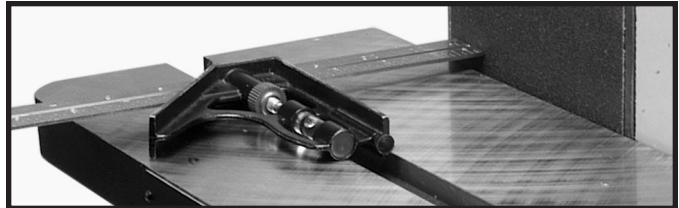

Fig. 24
1. Check to see if the miter gage slot is parallel with the sanding belt by placing a square in the miter gage slot with one end of the square against the platen, as shown in Fig. 24.
The platen (A) Fig. 24, is set at the factory  $1/32$  of an inch higher than the crown of the drums (B). This allows the belt, when properly tensioned, to lay flat on the platen and eliminate stretching and bulging which might occur if the platen is not at the right height.